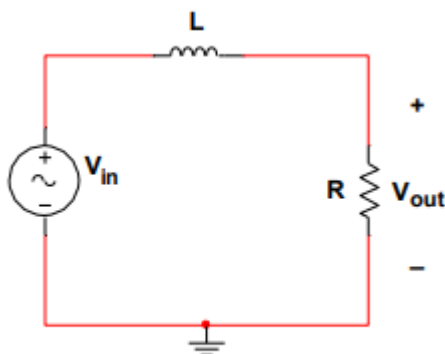

Figure 2.1 – Series RL Circuit
1. **Build** the circuit in **Figure 2.1** on a breadboard using the following components: